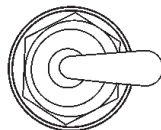

Figure 23. Pumping Control Switch (ON)
6. To begin pumping concrete. Place the pumping control switch (Figure 23) in the **ON** position